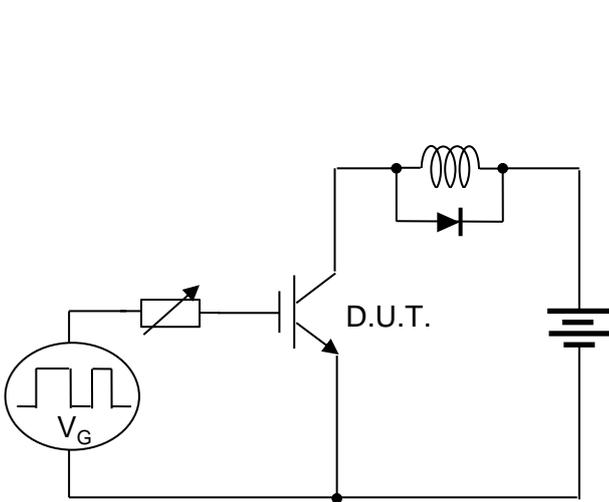

Fig.17 Inductive Load Switching Circuit
*1) Assurance items according to our measurement definition (Fig.17, 18, 19, 20)